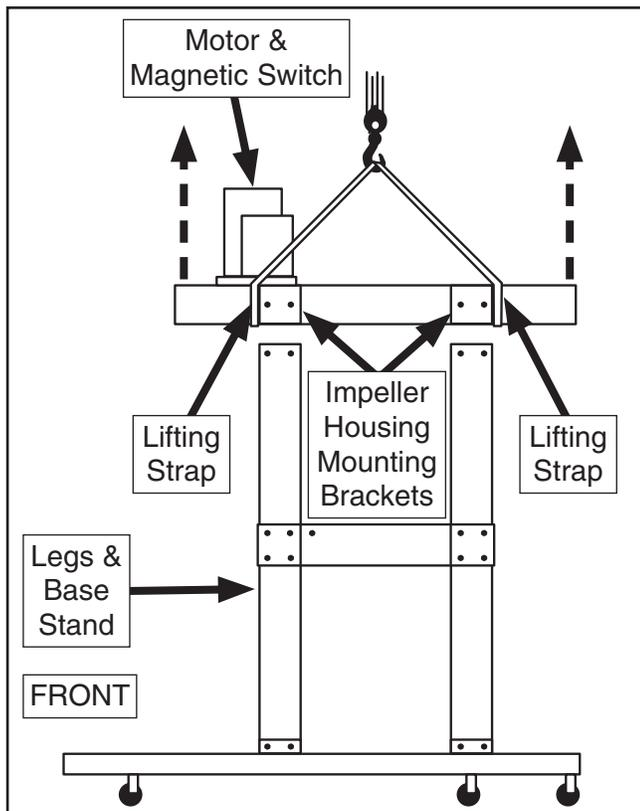

Figure 17. Lifting strap placement for impeller housing installation.
11. Place lifting straps rated for at least 500 lbs. under impeller housing so that straps sit on outside of mounting brackets, as shown in **Figure 17**.
12. Lift impeller housing enough to clear legs and base stand (see **Figure 17**).
13. Place base stand under impeller housing as shown in **Figure 17**.